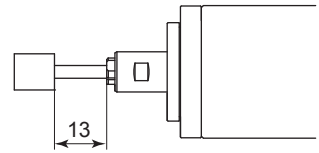

Fig. 12
- ① The proper surface speed for general grindstones is 10 - 30m/s.
- ② Do not exceed 13mm of overhang for mounted grindstones as shown in Fig. 12. If the overhang must exceed 13mm, reduce the brushless motor speed in accordance with Table. 3.
- ③ Dress the grindstone prior to use.
- ④ Do not use cutting tools with bent or broken shanks, cracks or excessive run-out.
- ⑤ For grinding, the maximum depth of cut should not exceed 0.01mm radially or axially. Reciprocate the tool several times after each pass to eliminate tool pressure.
- ⑥ Always operate cutting tools within the allowable recommended speed of the cutting tools. Use of a cutting tool outside of the allowable speed of the cutting tools could cause damage to the Spindle and injury to the operator.
- ⑦ Keep the cutting tool shank and collet clean. If contaminants are left in the collet, excessive run-out will cause damage to the cutting tool and or Spindle.
- ⑧ Do not strike or disassemble the Spindle.
- ⑨ Please set the cutting tools to minimize the overhang amount. 13mm is the maximum amount of overhang to maintain high accuracy and safety.